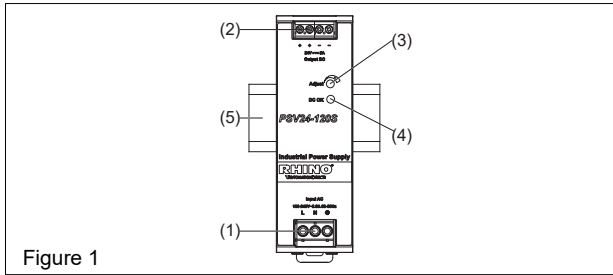
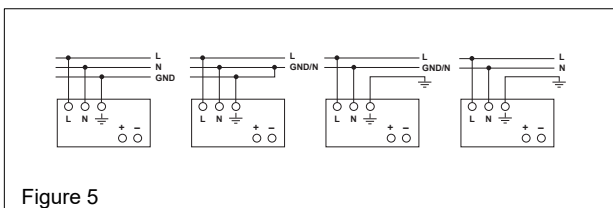

Figure 1
Figure 5
2. Device description (Fig. 1)
5.1. Input connection (Fig. 1, Fig. 5)
Use L, N and GND connections of input terminal connector (see Fig. 1 (1)) to establish the 100-240 VAC connection. Typical connection methods are shown in Figure 5.
5.2. Output connection (Fig. 1 (2))
Use the "+" and "-" screw connections to establish the 24VDC connection. The output provides 24VDC. The output voltage can be adjusted from 22 to 28 VDC on the potentiometer. The green LED DC OK displays correct function of the output (Fig. 1 (4)). The device has a short circuit and overload protection and an overvoltage protection limited to 28.8-35.2 VDC.